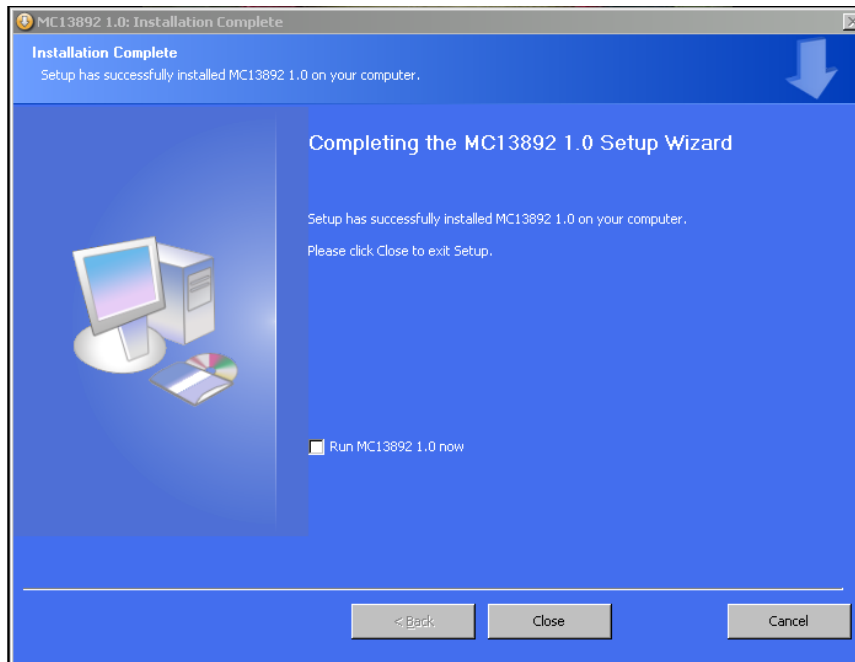

Figure 17. Installation Complete Window
- Following the correct installation of the GUI and device drivers, the **KIT13892VxEVBEJ** board is ready to receive and send commands to the **MC13892 Installer.exe** application thru the **KITUSBCOMDGLVME** board. To finish the installation process, select the “Close” button (Figure 17).